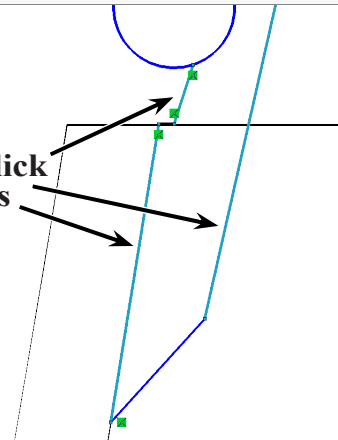

Fig. 74
Step 10. **Ctrl click the 3 lines** to select all three. Release Ctrl key and click **Make Parallel**  on the context toolbar, **Fig. 74**.
Step 11. Click **Smart Dimension**  (S) on the Sketch toolbar.